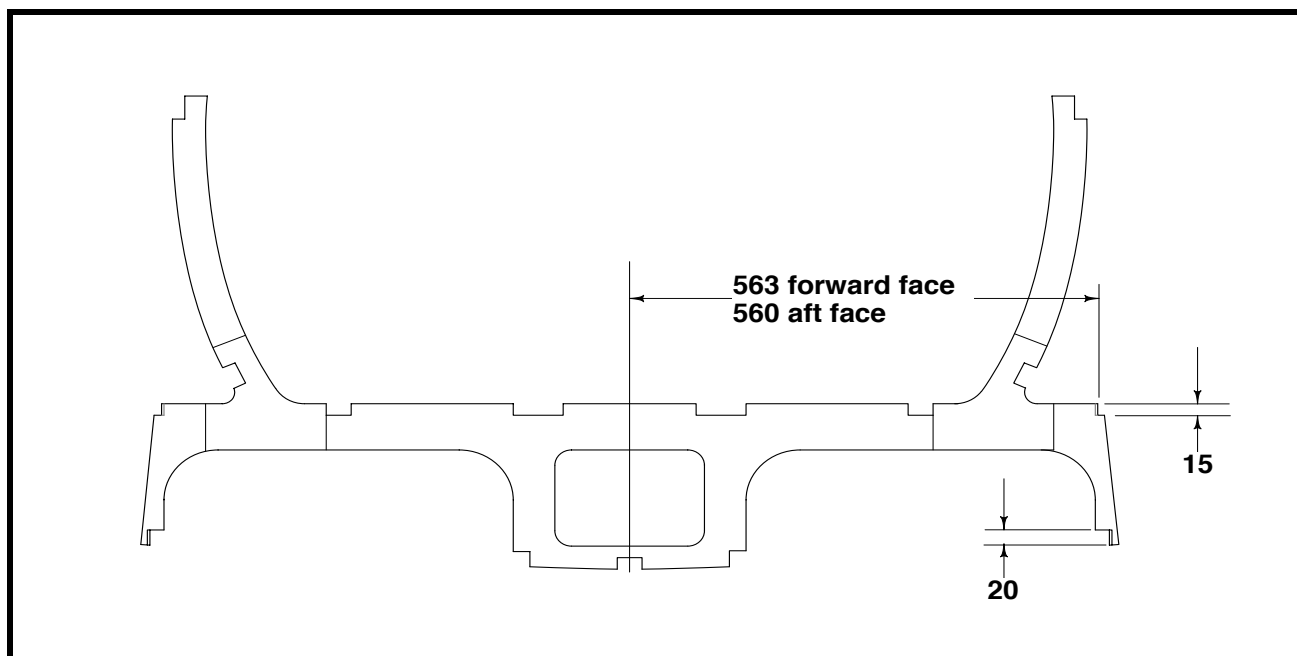

Figure 25
- ❑ For the wheel well door installation—cut out for 30x15 and 60x15 seat track supports as shown in Figure 25. See Drawing No. 310.
- ❑ For the wheel well door installation—cut out for the two 20x20 spruce strips to each side of the bottom center longeron as shown in Figure 25. See Drawing No. 310.
- ❑ For the wheel well door installation—cut the bottom center of the frame to a width of 280mm as shown in Figure 25. See Drawing No. 310.
- ❑ For the wheel well door installation—cut the frame for the wheel well rings as shown in Figure 25. Because the rings are installed with the center of the axle—and therefore the center of these rings—forward of the frame, the slots for the rings are at an angle. The slots for the upper rings should be 15mm.